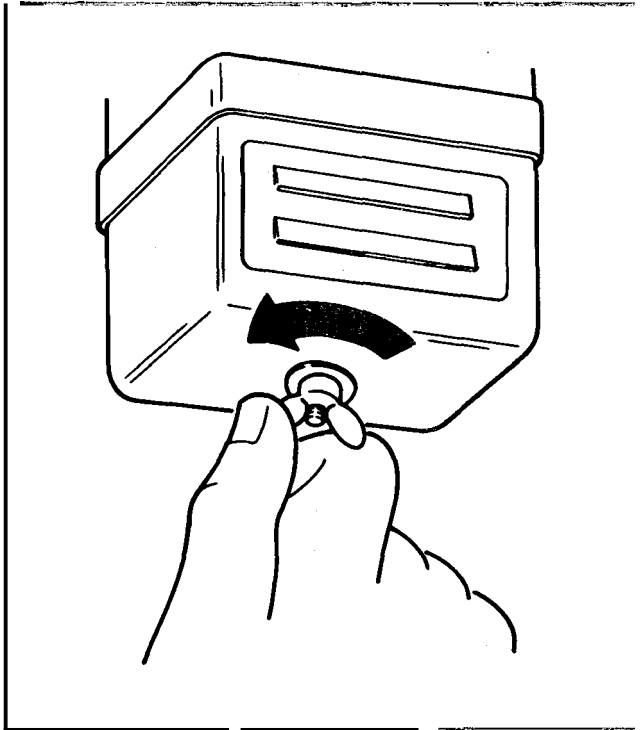

Figure 1
2. Remove the thumb screw retaining the air cleaner cover. See Figure 1.